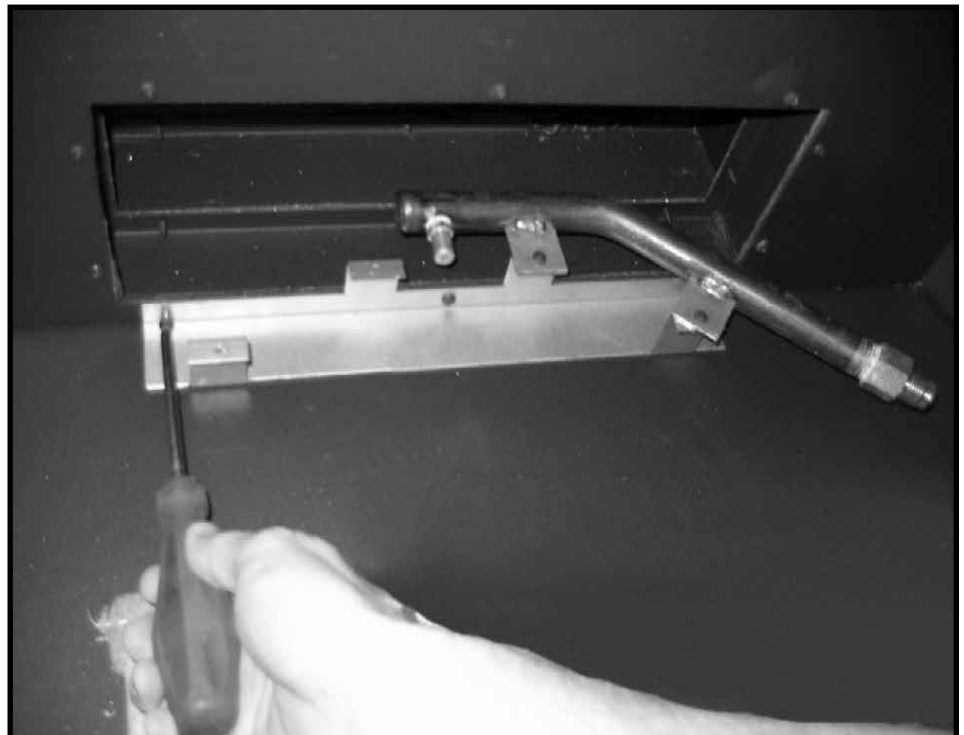

Figure 2: Attaching the manifold assy.
1. Remove the three lower screws from the air channel at the back of the firebox and attach the manifold assembly to the back of the firebox (Figure 2).